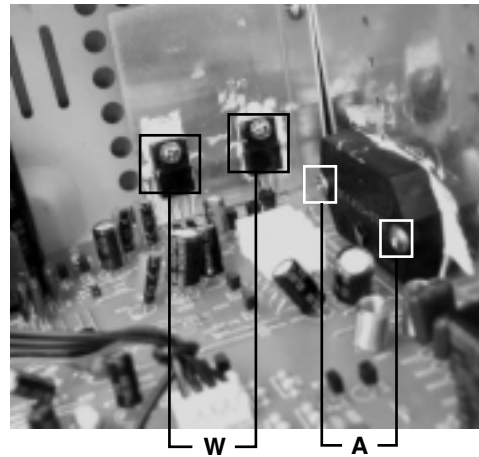

Fig.31
■ Removing the 3-pin regulator and bridge diode (See Q904, Q907 and Fig.31)